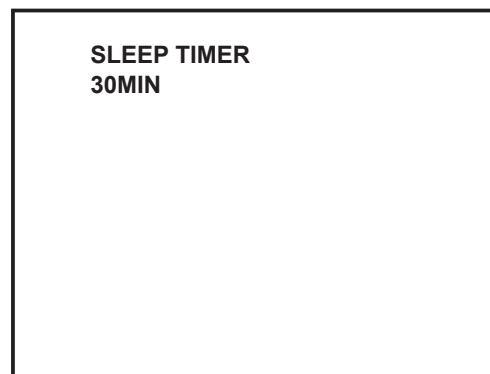
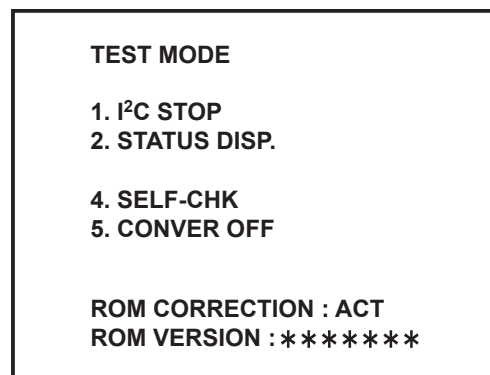

Fig.1
Fig.2
- (1) Set the <sleep timer 30min> with [SLEEP TIMER] key. (Fig.1)
- (2) During the <sleep timer 30min> display, press [DISPLAY] key and [VIDEO STATUS] key at the same time.
- (3) Then <TEST MODE> screen is displayed. (Fig.2)